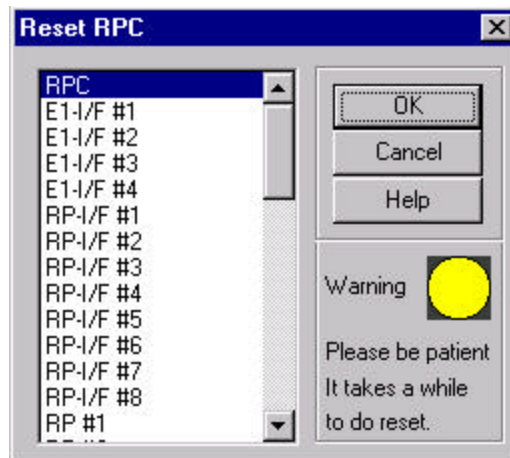

Figure 4-35: Reset RPC Window
1. Select **Reset** from the **Maintenance** main menu. The **Reset RPC** window appears as shown in Figure 4-35.